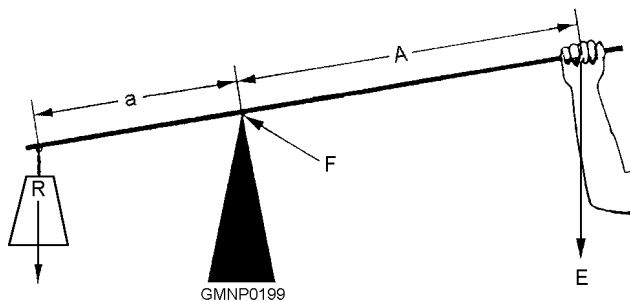

Figure 4-7.—A simple lever.
The three basic components that comprise all levers are the fulcrum (F), a force or effort (E), and a resistance (R). Look at the lever in figure 4-7. You see the pivot point (F, fulcrum); the effort (E) that you apply at a distance (A) from the fulcrum; and a resistance (R) that acts at a distance (a) from the fulcrum. Distances (A) and (a) are the lever arms.